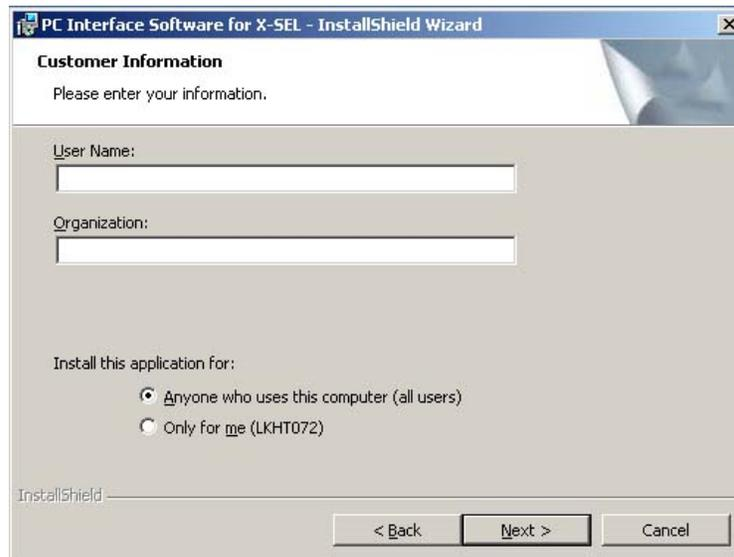

Fig. 1.6 Customer Information Registration
- [5] Customer information register window (Fig. 1.6) is displayed. Enter customer information and click **Next**.